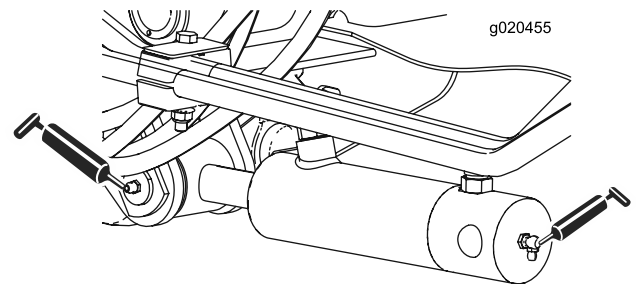

Figure 40
- 2 (each side) lift-arm-cylinder bushings (Figure 40)